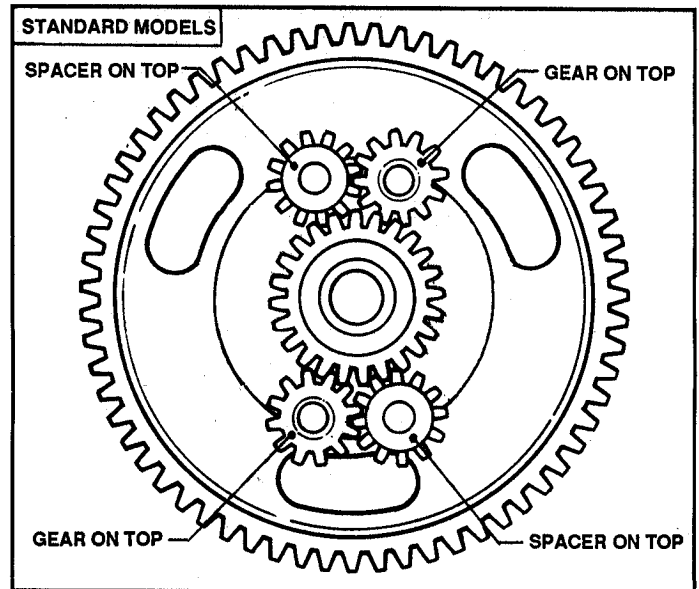

FIGURE 4.25
- (b) Install four twelve-tooth pinion gears and spacers on bullwheel in staggered position - spacer below one gear and above on the next. See Figure 4.25.